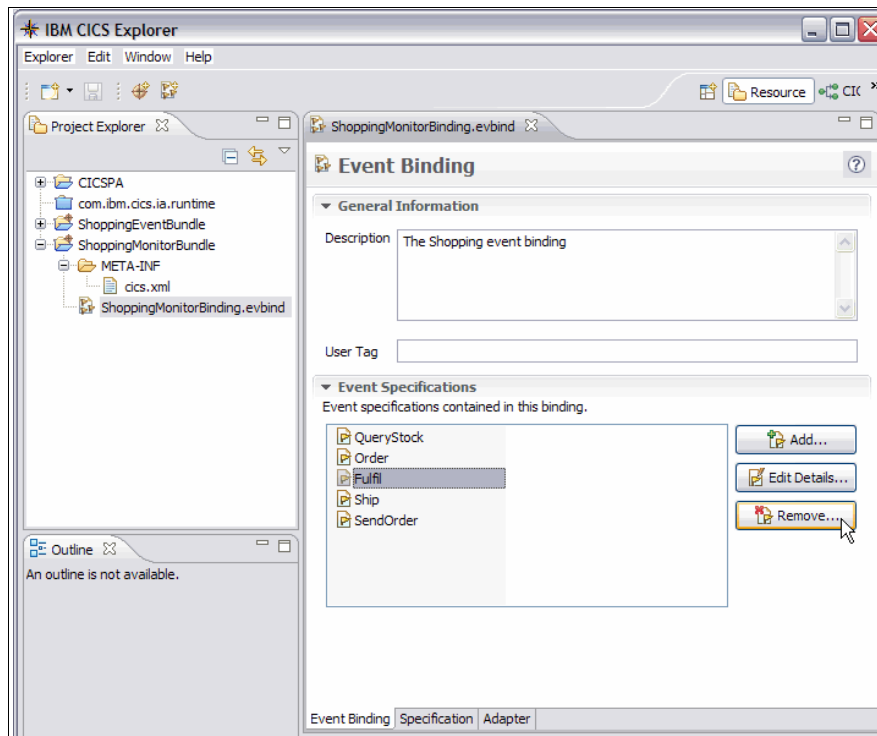

Figure 5-59 Remove fulfill event specification
4. Double-click the ShoppingMonitorBinding.evbind file to open the event binding. In the Event Specifications part of the Event Bindings window, click **Fulfill** and **Remove** to remove the fulfill specification from the event binding (Figure 5-59). Click **Ctrl-S** to save the changes.